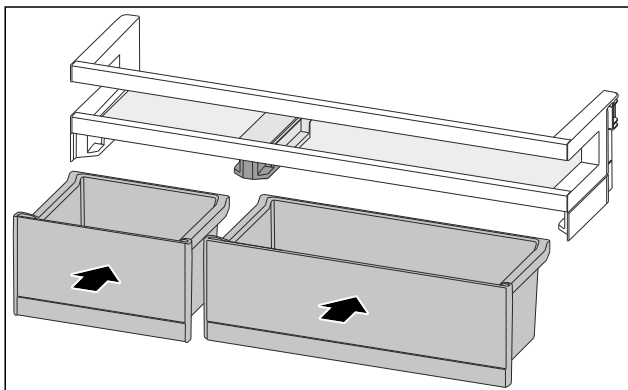

Fig. 189
- Insert the VarioBoxes in reverse order. (see Fig. 189)